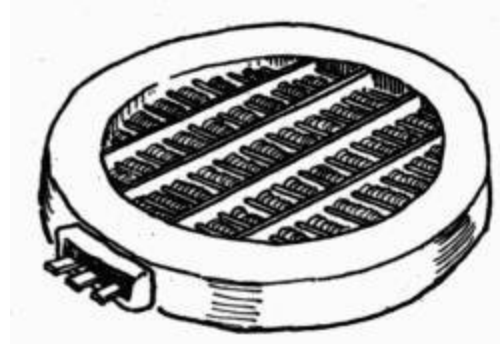

FIG. 19. Heating unit of electric stove.
36. Heating Unit of Electric Stove. The heating unit consists of coils of wire or a plate of metal thru which the current flows, meeting resistance and producing heat. If the current flowed freely thru the wires, little heat would be generated (Figs. 19 and 20).